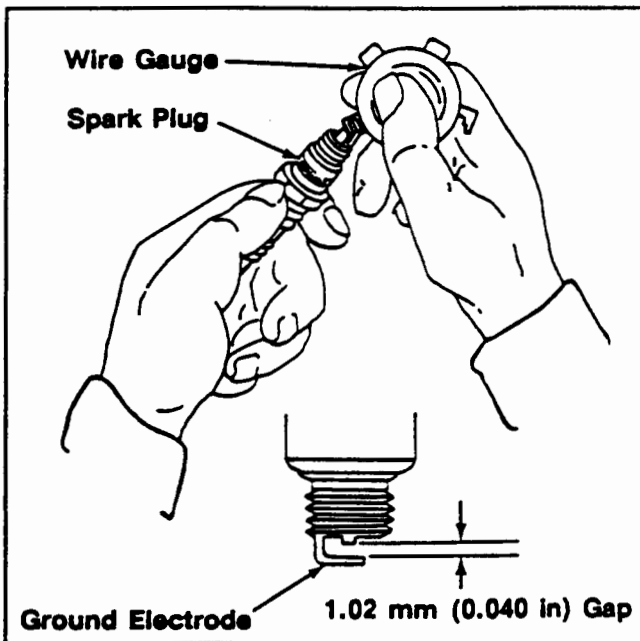

Figure 10. Servicing Spark Plug.
3. Check the gap using a wire feeler gauge. Adjust the gap to 1.02 mm (0.040 in) by carefully bending the ground electrode. See Figure 10.